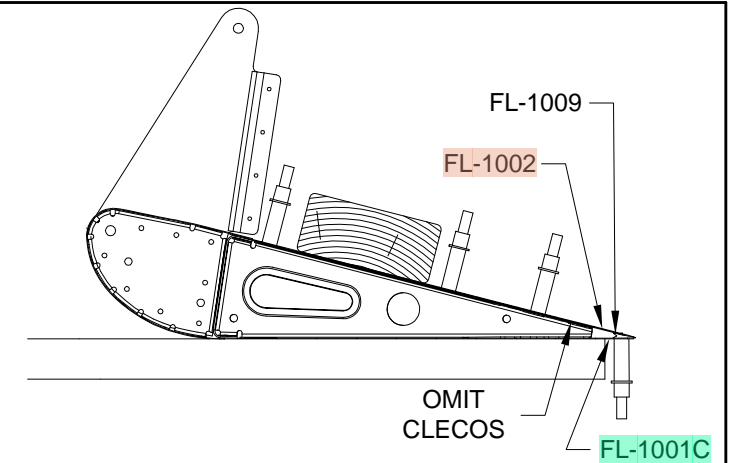

FIGURE 3: RIVETING BOTTOM SKIN
Step 4: Lay the flap top side down on a very flat surface as shown in Figure 3.
Cleco the trailing edge to the **FL-1001C** Top Skin and the **FL-1002** Bottom Skin as shown in Figure 3.